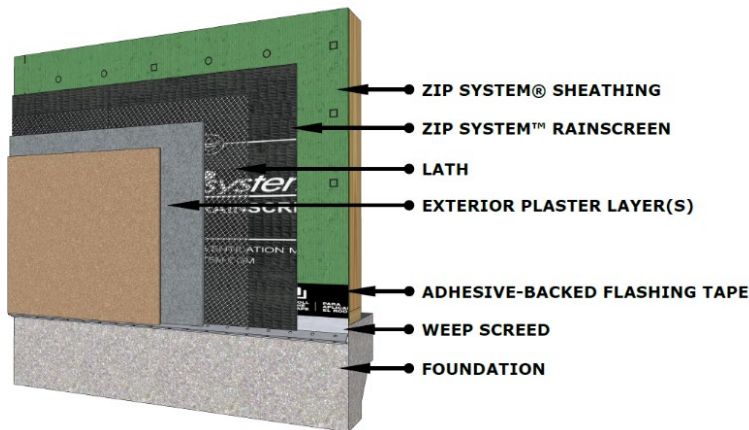

FIGURE 1
3.2.3 Substrate Preparation for Application of Cement Plaster or Adhered Masonry Veneer: Figures 1, 2, and 3 depict stucco or adhered stone wall assembly details when utilizing ZIP System wall sheathing in accordance with the IBC or IRC.